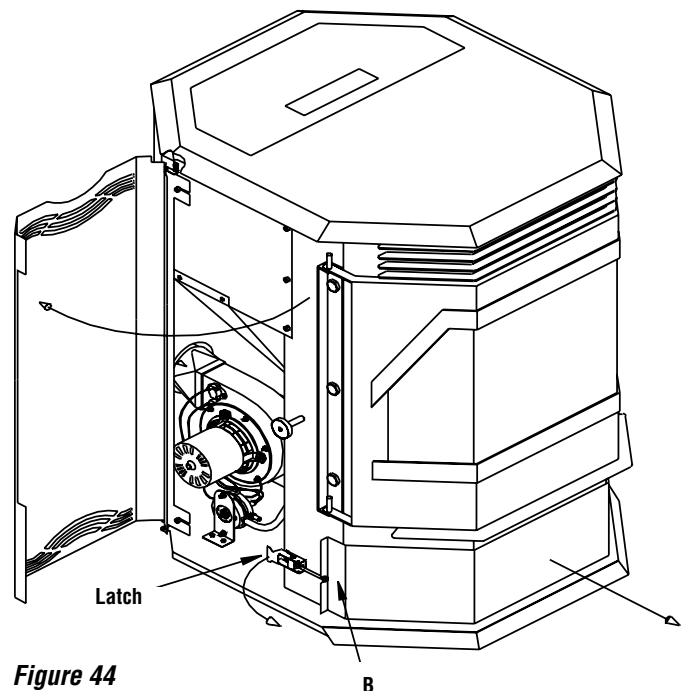
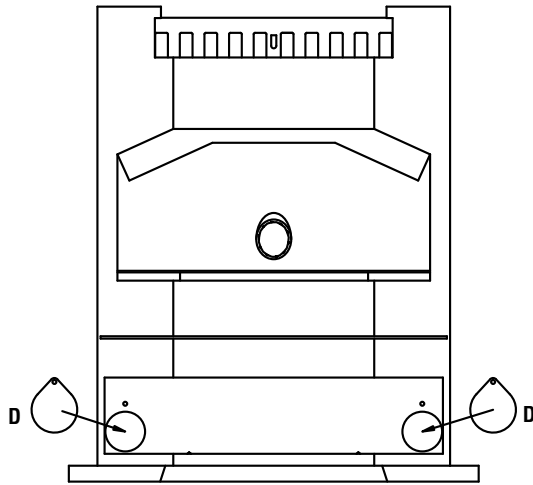

Figure 44
Figure 46A
CAUTION: Do not remove the ash drawer when the stove is hot. To remove the ash drawer, swing open the left and right side doors. Rotate the lever on latch B (see **Figure 44**) out from the stove to release the ash drawer. Do the same with the latch on the right side of the stove. Pull the ash drawer forward and away from the stove.
6. Remove the ash drawer (see **Figures 44**) to locate the lower left and right tear drop shaped flue passageways (see D in **Figures 46A and 46B**).